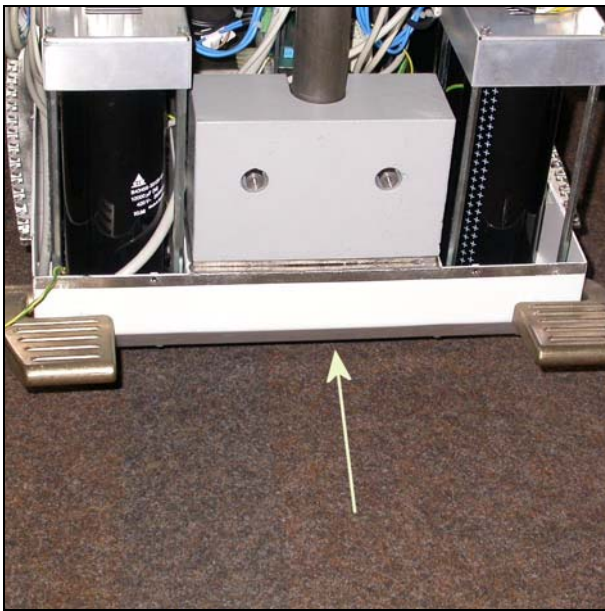

Fig. 1
- Push the squared timber underneath the basic unit as indicated by the arrow in Fig. 1 to prevent the basic unit from tilting back after removing the POWERPHOS and the X-ray image intensifier.